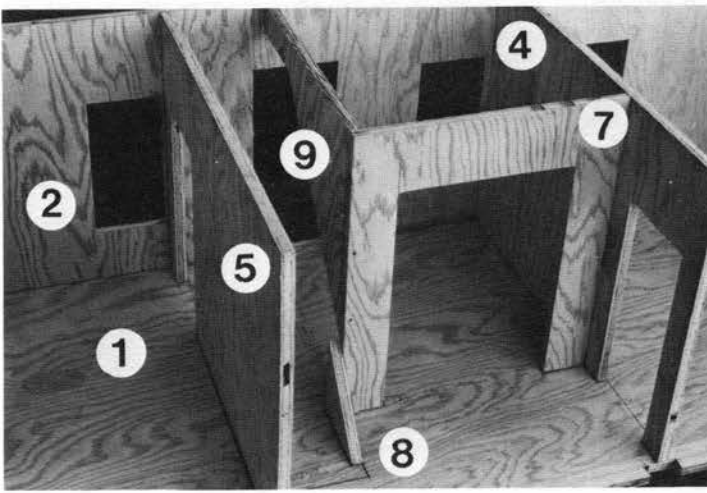

Fig. 5
STEP 4: Install parts 7, 8, and 9. Parts 8 and 9 will become a part of the stairway system, so test your Houseworks stair unit to make sure it fits into the stairwell formed by parts 5, 8, and 9. **Do not** glue the stair unit in at this time. (FIGURE 5).